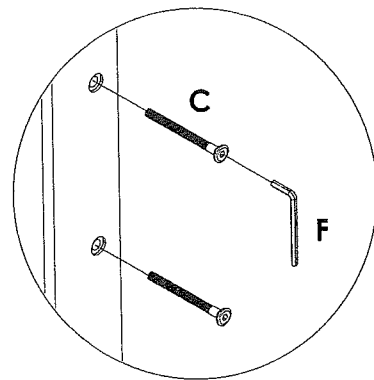

Figure 6
2. Insert **JCBC Bolts (C)** into holes on **Headboard** and **Footboard** as seen in **Figure 6**, tighten it up by using an **Allen Key (F)**.